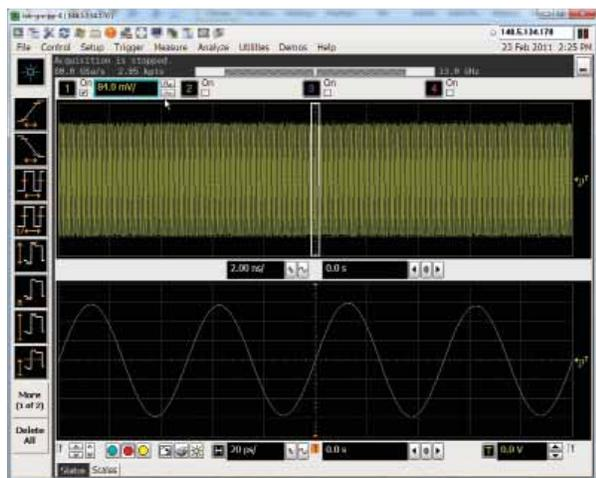

Figure 7. Applying the sine wave to a channel and frequency produces this waveform
1. Apply the RF sine wave to a given channel and frequency well within the bandwidth (Figure 7).